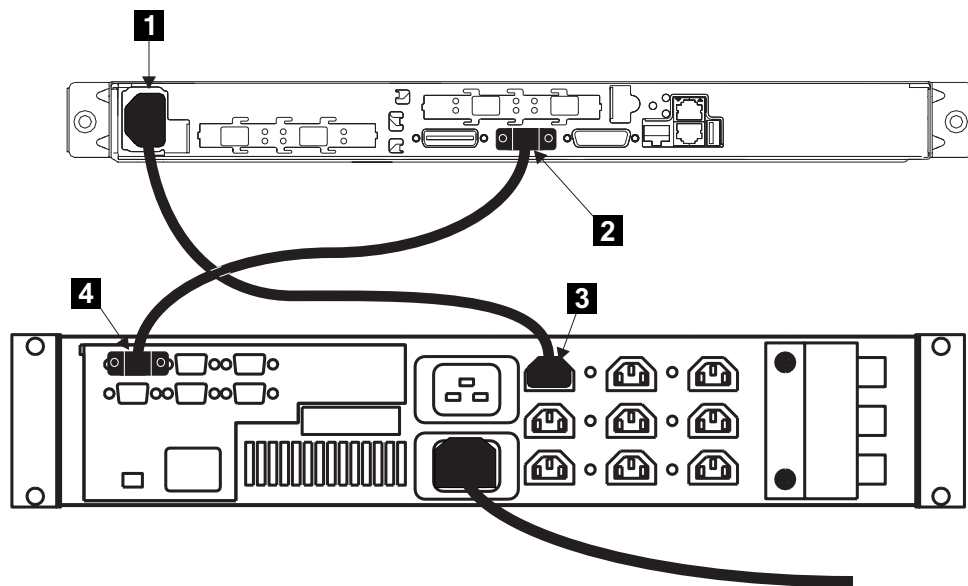

Figure 32. Connecting the SAN Volume Controller power cable to the uninterruptible power supply
1. At the back of the SAN Volume Controller, plug a power cable into the socket **1** (see Figure 32).